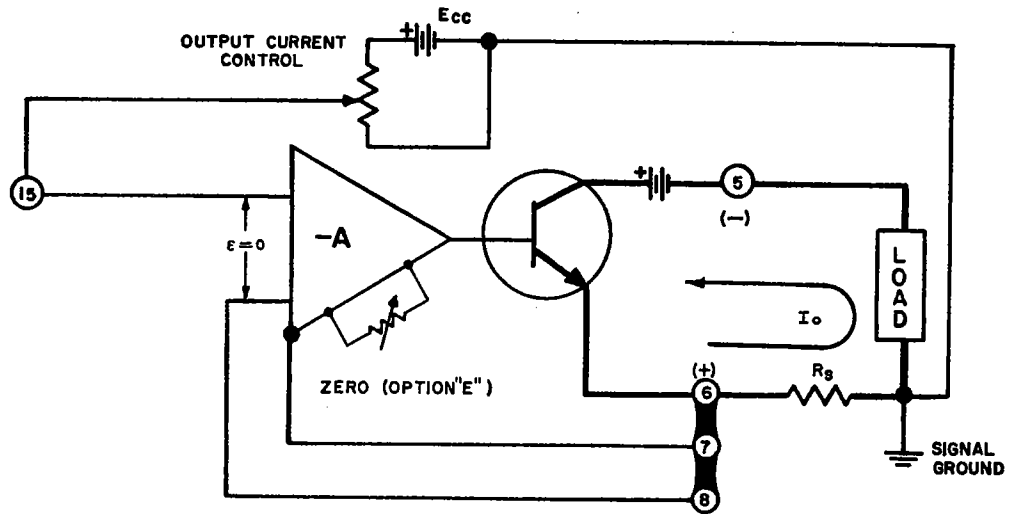

FIG. 3-11 EQUIVALENT DIAGRAM, PTR WITH EXTERNAL SENSING AND VOLTAGE CONTROL.
3-52 The transfer function for output control by voltage was derived from FIG. 3-11 below and can be expressed by:
**NOTE:** This equation (Eq. 2) is derived from the equivalent diagram (FIG. 3-11), and is valid for the "zeroed" PTR.
3-53 The circuit shown in FIG. 3-11 is suitable for output current from about 1 mA down to  $1\ \mu\text{A}$ . The necessary sensing resistors for various current ranges are given in the table for a control voltage ( $E_{CC}$ ) of 0–1 volt. For other control voltages, they can be calculated using the output equation (Eq. 2).
3-54 The external control voltage ( $E_{CC}$ ) may simply consist of a potentiometer across a mercury cell (as indicated in FIG. 3-11) or it may be a controlled voltage source of your choice. The voltage source ( $E_{CC}$ ) must be stable, but its current capacity can be quite small, since it is connected to a virtually open circuit (provided the offsets are nulled or zeroed, as previously described in par. 3-45). If offset current zeroing is *not* used,  $E_{CC}$  must supply the offset current (typically  $0.1\text{--}0.5 \times 10^{-6}\ \text{A}$ ).